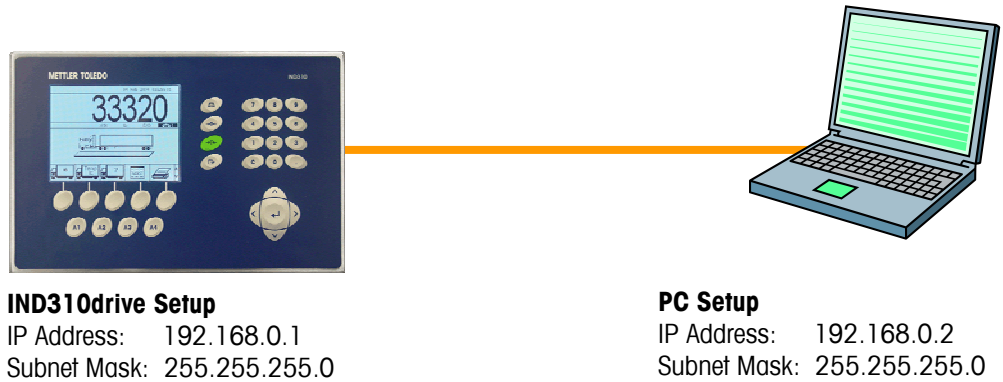

Figure B-3: IP Address Configuration Example (for Crossover or Hub Configuration)
3. The PC and the IND310drive must have unique IP addresses. The IP address numbers must be the same where the subnet mask is 255, but different where the subnet mask is 0. See the example in Table B-1 and Figure B-3, which follow.